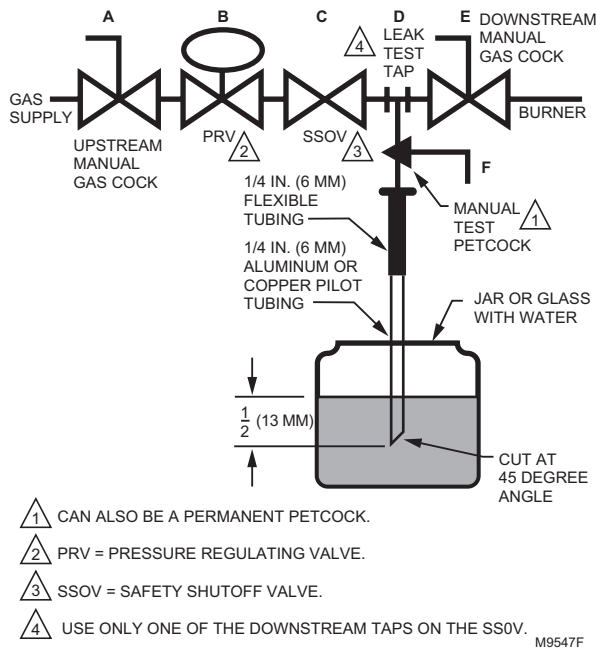

Fig. 5. Valve leak test.
Valve Leak Test (Fig. 5)
1. De-energize the control system to assure no power goes to the valve actuator (C, Fig. 5).
2. Close the upstream manual gas cock (A).
3. Make sure the manual test petcock (F) is closed in the leak test tap assembly (D).
4. Remove the leak test tap plug and connect the test apparatus to the leak tap (D).
5. Close the downstream manual gas cock (E).
6. Open the upstream manual gas cock (A).
9. Slowly open the test petcock (F).